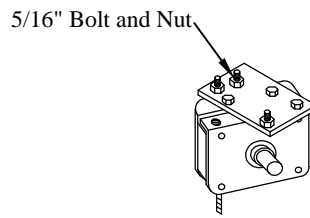

Figure 11: Complete adapter plate and spare tire holder assembly.
6. **Install** three (3) 5/16" bolts and nuts into the remaining holes in the adapter plate (Figure 11).